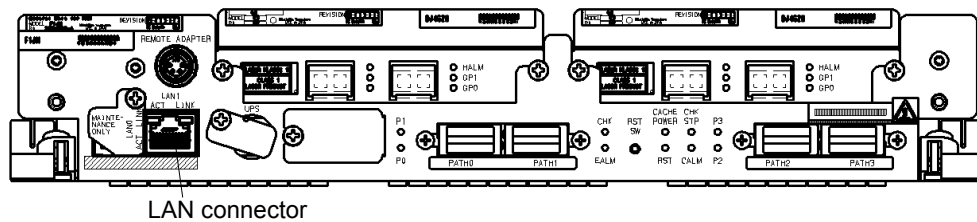

Figure 8-1 LAN Connector Location
2. Connect the LAN cable with the LAN connector shown in the Figure 8-1.